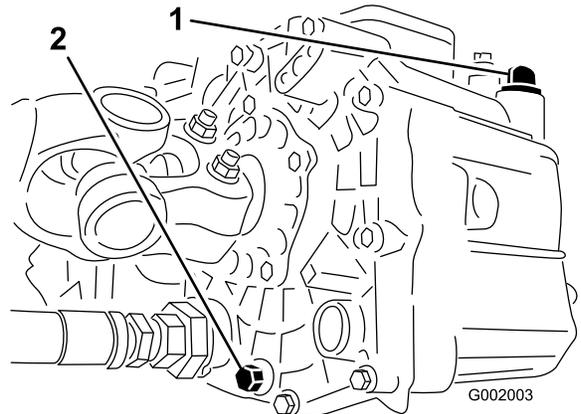

Figure 38
3. Remove the drain plug from the side of the reservoir, and let the hydraulic fluid flow into the drain pan (Figure 38).